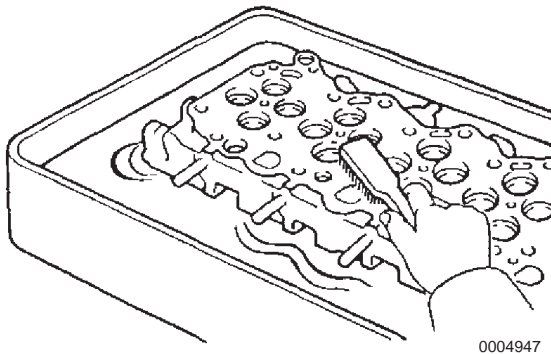

Figure 5-22
7. Thoroughly clean the cylinder head deck surface using a soft brush and solvent (**Figure 5-22**).